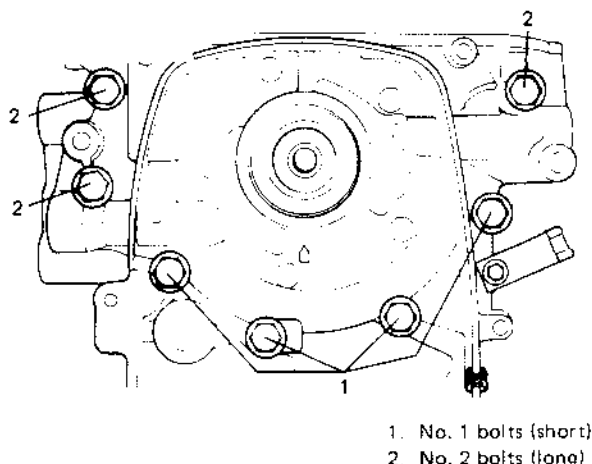

Fig. 3-6-7
3) Install oil pump to crankshaft and cylinder block. Install No. 1 and No. 2 bolts as shown in Fig. 3-6-7, and tighten them to specified torque.